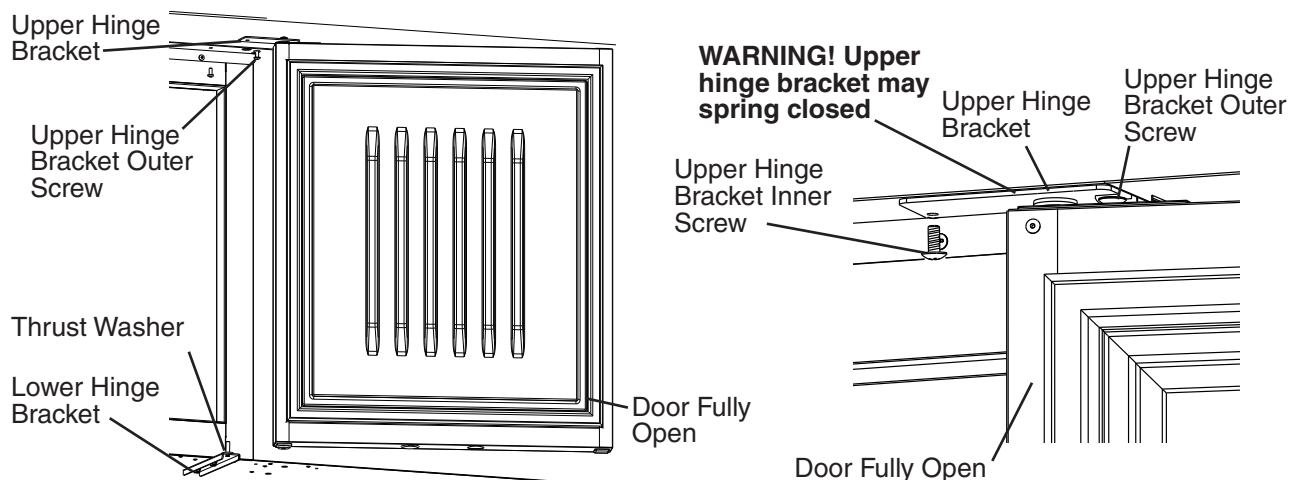

Fig. 34
- 16) Be sure the lower hinge bracket thrust washer is in place, then place the door on the lower hinge bracket in the fully open position. Slide the door upper hinge bracket outer slot onto the upper hinge bracket outer screw. See Fig. 34.